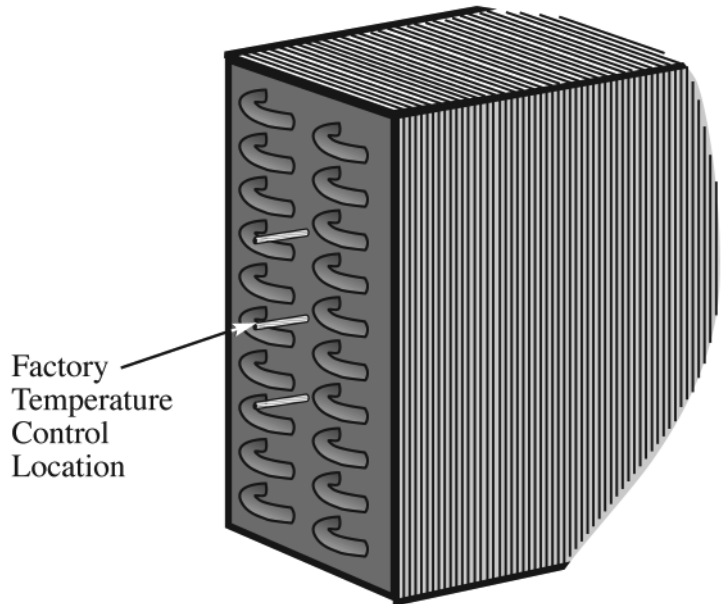

Figure 1
B. If the above does not give desirable results, further adjustment is possible in the field. Disconnect power to the cabinet. Remove the full length back panel that the temperature control is mounted to: (See figure 1 & 2).